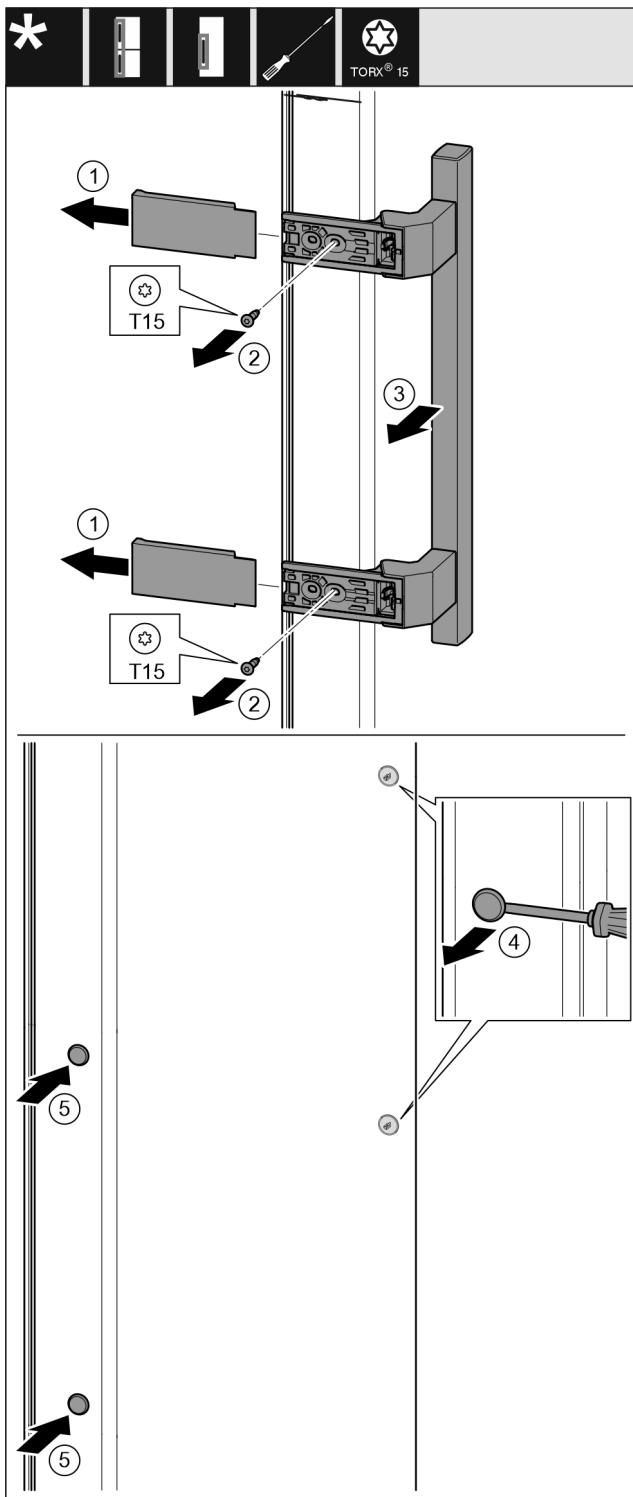

Fig. 37
- ▶ Pull off the cover. Fig. 37 (1)
- ▶ Remove the screws with the T15 screwdriver. Fig. 37 (2)
- ▶ Remove the handle. Fig. 37 (3)
- ▶ Carefully lift up the side plugs with a slotted screwdriver and pull them out. Fig. 37 (4)
- ▶ Insert the plugs again on the other side. Fig. 37 (5)